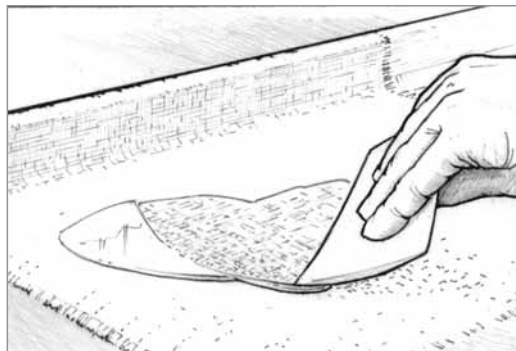

Figure 6-11 Spread the epoxy from the center of the fabric toward the edges with a plastic spreader.
- Spread the epoxy over the cloth surface with a plastic spreader, working the epoxy gently from the pool into the dry areas (*Figure 6-11*). Use a foam roller or brush to wet out fabric on vertical surfaces. Properly wet out fabric is transparent. White areas indicate dry fabric. If you are applying the cloth over a porous surface, be sure to leave enough epoxy to be absorbed by both the cloth and the surface below it. Try to limit the amount of squeegeeing you do. The more you “work” the wet surface, the more minute air bubbles are placed in suspension in the epoxy. This is especially important if you plan to use a clear finish (see note below). You may use a roller or brush to apply epoxy to horizontal as well as vertical surfaces.